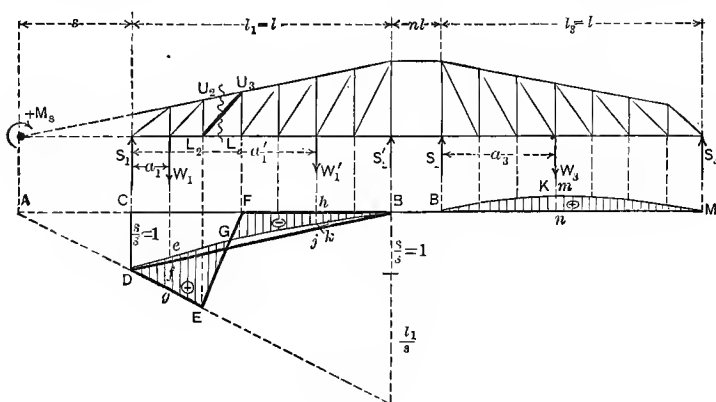

FIG. 35.
**Diagonal of a Partially Continuous Truss.**—The diagonal  $L_2U_3$  in Fig. 35 has its center of moments at the intersection of  $U_2U_3$  and  $L_2L_3$ . Since the point of intersection lies upon the left of the left end of the span,  $s$  is negative.
The influence diagram for  $\frac{m_s}{s}$  is indicated by the heavy lines in Fig. 35. This is the *base diagram* with  $CD = \text{unity}$ . The ordinates represented by the expression  $\frac{k_1 - k_1^3}{4 + 6n}$  are laid off above the line  $DB$ . The influence diagram for  $\frac{M_s}{s}$  is the shaded area  $DEGFB$ . For any other diagonal the lines  $DE$  and  $EF$ , only are changed.